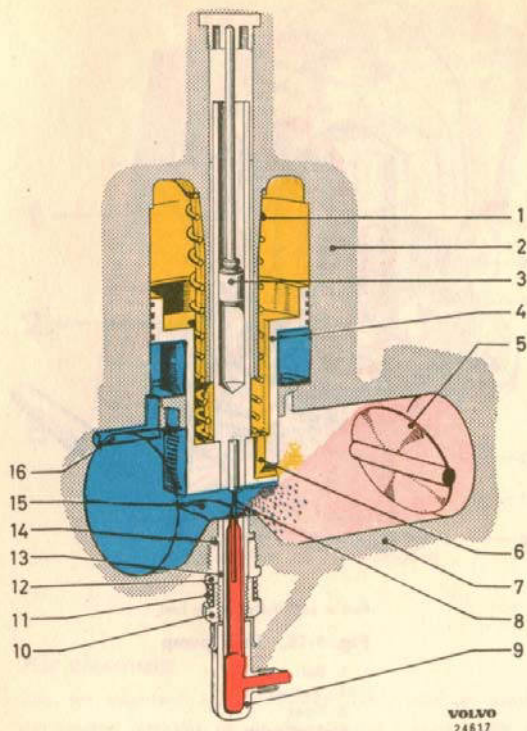

Fig. 1-13. Function of carburetor
The stream of air which passes through the carburetor while it is operating increases in speed when it passes the constriction which is called the bridge (15). See Fig. 1-13.
The fuel/air relationship is adjusted by means of the adjuster nuts (10, Fig. 1-13) on the jets and setting is carried out at idling for the whole of the speed range.